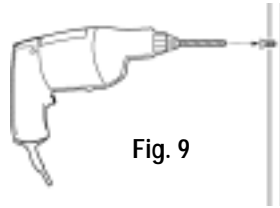

Fig. 9
- 2) Remove the bracket and drill two holes for the long mounting screws—*see Figure 9.*